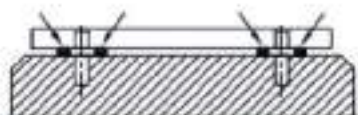

Fig. 2. Foundation, baseplate and fitting the shims
- Place the pumpset on the concrete and by adding or removing shims under the baseplate align the discharge flange horizontally by using a spirit level on it as shown on Fig.2 Make sure it is completely horizontal.